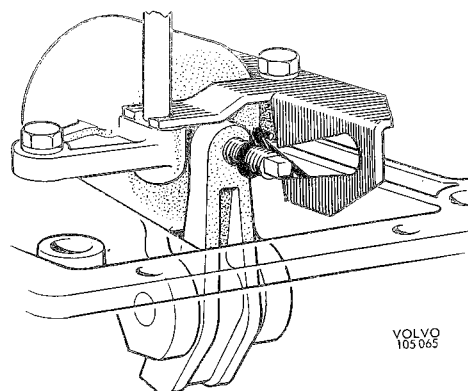

Fig. 4-115. Self-adjusting spring bolt cam
27. Adjust the location of the spring on the adjusting screw. It should be 1-2 threads from the lever. Remove the torque wrench and spacer block. Fit the cam. The long end of the spring sticks into the cam, see Fig. 4-115.